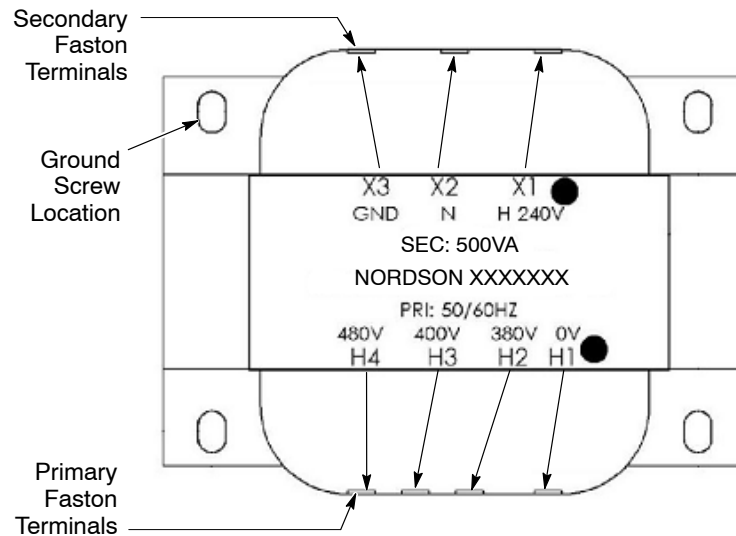

Figure 8 New Transformer Terminals
1. See Figure 8. One at a time, matching the wire label to the transformer label, attach the Faston lugs onto the terminals, and insert the wires into the main control board CONN6.